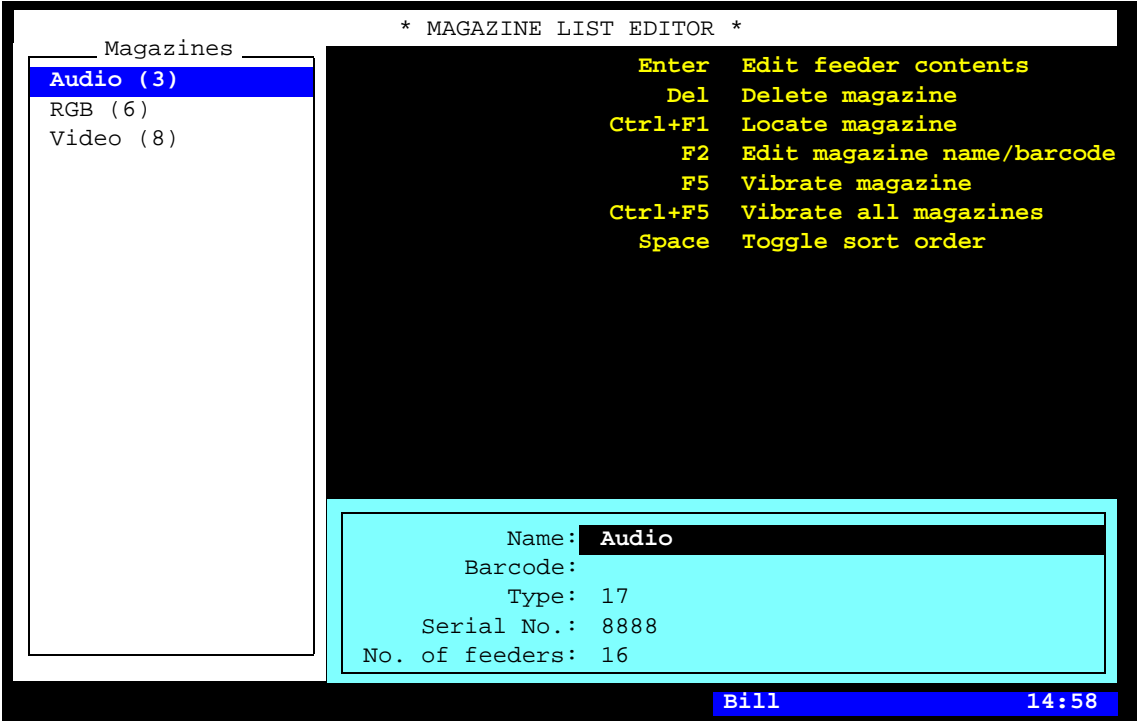

Figure 5-20. Tape and Vibratory Magazine List Editor
2. In the Magazine List Editor, select the desired magazine and press <F2> for editing the magazine name and barcode, see Figure 5-20.